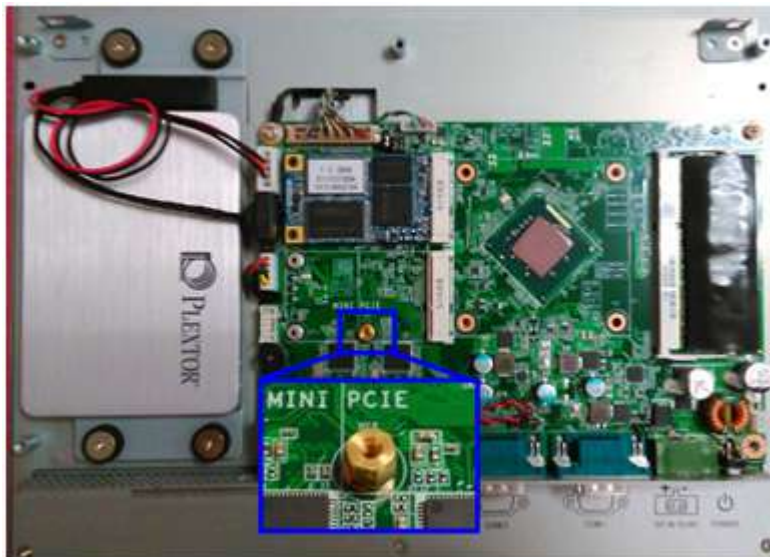

Figure 2.15 Hexagonal screw location
1. Retrieve the hexagonal screw provided in the accessory box. Align the screw with the notch on the PCB and secure in place (Figure 2.15).